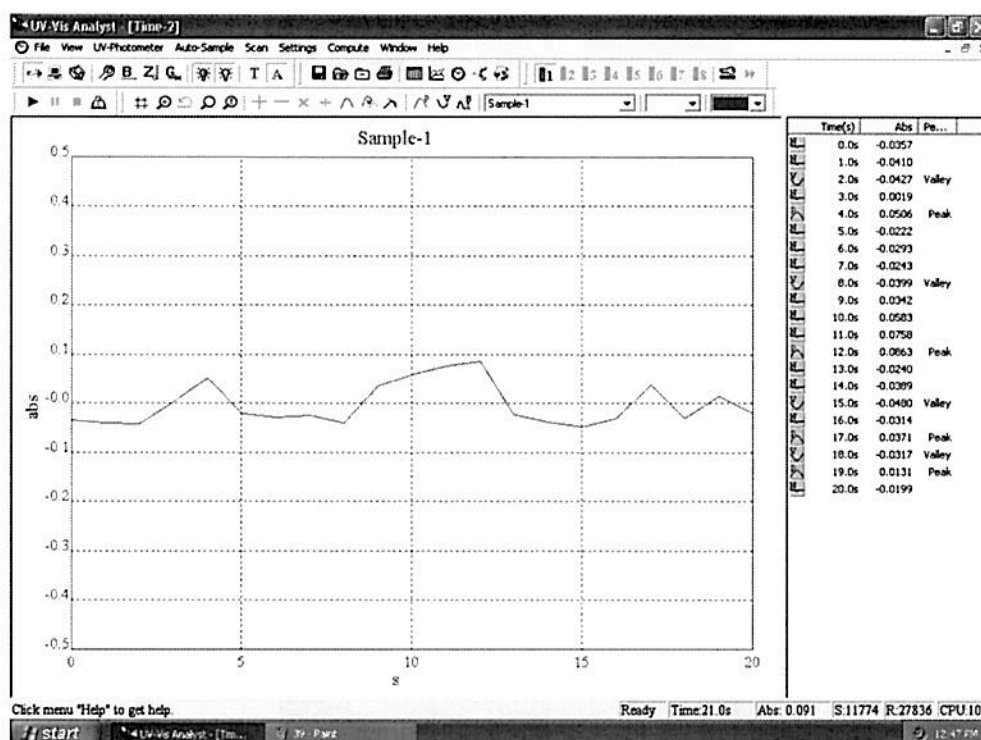

Fig. 4-40
6. Place a sample in the sample holder. Click  on the toolbar. The instrument will start scanning automatically. The graph will be displayed on the screen during time scanning (Fig. 4-40). You can stop scanning by clicking .